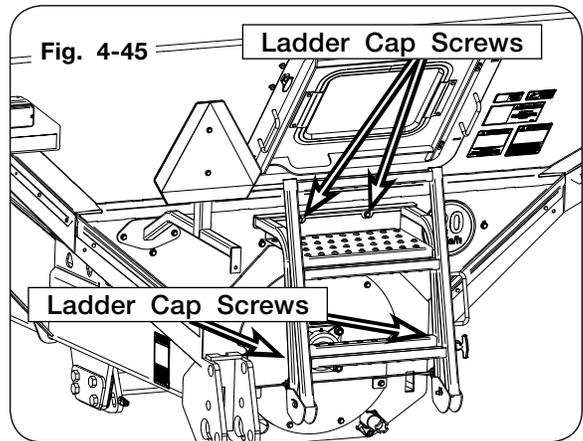

Fig. 4-45
37. Using a safe lifting device rated for 100 lbs., reinstall rear ladder. (Fig. 4-45)